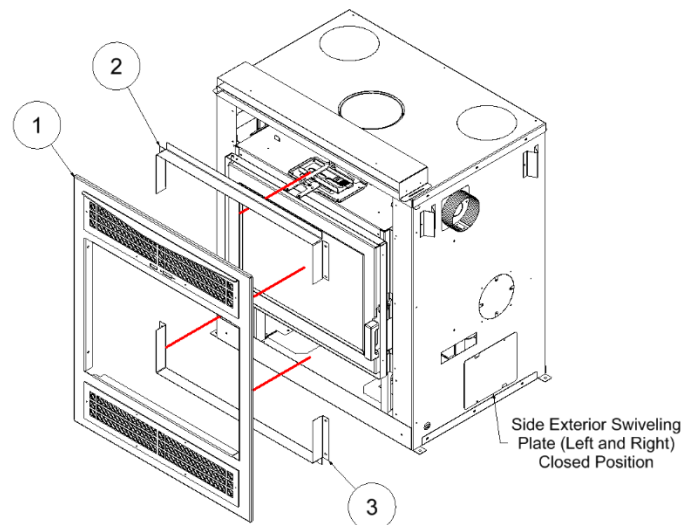

Figure 3-10: Traditional Surround
The Traditional surround comprises louvers below (intake) and above (outtake) the door. All components and fasteners are included in the surround kit. Refer to Figure 3-10 and Table 3-3 for the instructions below.
2. Fasten the Top and Bottom Surround Bracket (Item 2 and Item 3 respectively in Figure 3-10) with 4 metal screws each.
3. Place the Traditional surround (Item 1 in Figure 3-10) within the door holder and secure it in place with four black screws (one on each corner). Make sure that the handles of the Combustion Air Control pass through the slots of the surround.
5. Secure the Intake Swivel Covers on the bottom sides of the unit to the closed position (Figure 3-10). **WARNING: For Traditional surround installations only.**
The Clean Face surround comprises no louvers; however, an intake into the chase and an outtake through gravity ducts is required for this configuration. The instructions below describe the installation of the intake openings, and the gravity ducts/outtakes. Please note that the SUPREME KG560 kit is required for the Gravity Kit installation (Figure 3-10). Note that openings for the intake and the outtake are to be incorporated in the construction of the chase (refer to Section 3.7). Note that the duct adaptors are included in the Gravity Duct kits.